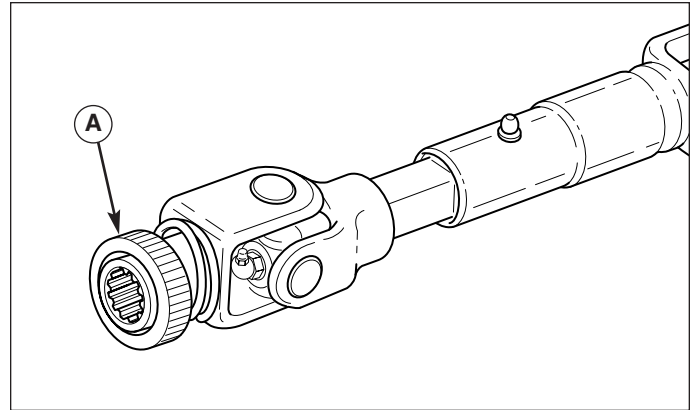

Figure 15. Typical Drive Shaft
2. Pull back on the locking collar (A, Figure 15) and slide the connector on the PTO shaft as far as it will go.